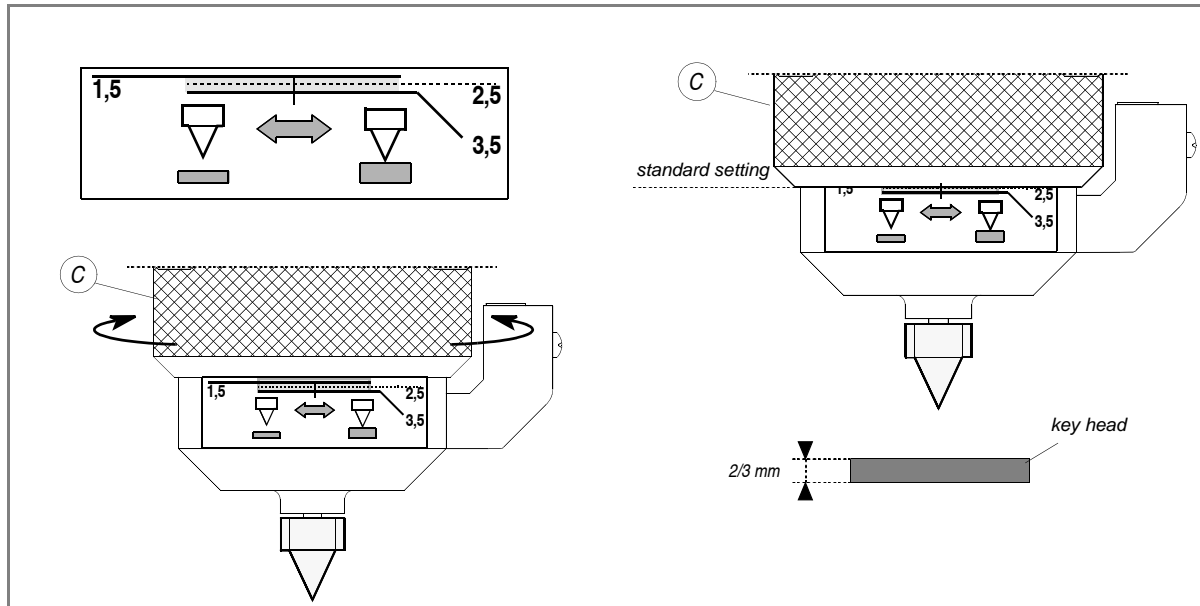

Fig. 19
The regulation ring (C) makes it possible to increase or decrease the distance between the punch and the surface to be marked. This distance, together with the type of material from which the key is made and the size of the chosen characters, affects the quality of the microdots used in marking. The regulation plate (fig. 19) has 3 positions suitable for keys with a thickness of 1,5 mm, 2,5 mm and 3,5 mm.
When the ring (C) is placed in the position shown by the dotted line (2,5 mm) the machine is set on a standard distance ideal for marking key thickness of between 2 and 3 mm (fig. 19).